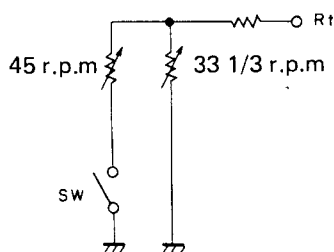

Fig. 4-5 Switching reference frequency
1. Since the rotational speed is detected at a fixed frequency, the frequency must be converted to a voltage (DC). This function is performed by the F/V converter.
4. Switching reference frequency is shown in Fig. 4-5.